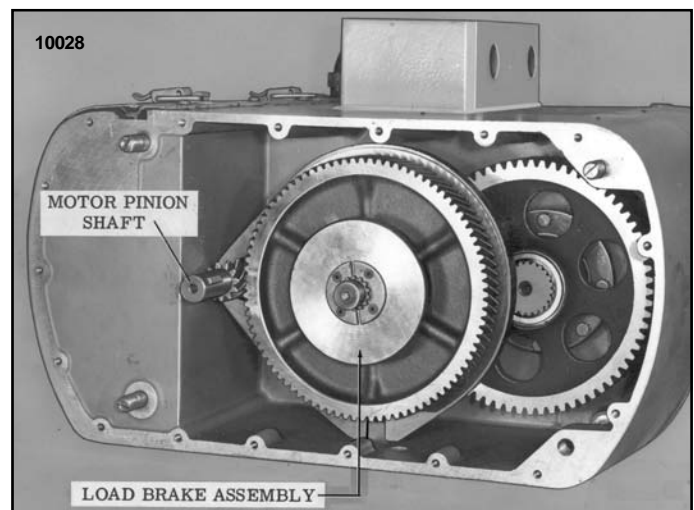

Figure 8-7. View of Gearing with Spider Removed
To inspect the roller-ratchet brake and gearing, drain oil from the gear case and remove motor brake actuating mechanism per Paragraphs 8-5.d.(1) and 8-5.d.(2). Remove gear case cover by removing the hex head cap screws holding cover to the case. Remove the assembled spider and motor brake from the gear case by removing hex nuts and hex head bolts and lockwashers holding spider to the gear case. In addition, the load brake shaft is held to the spider by a bearing cage and six cap screws which holds the load brake shaft bearing to the spider. This bearing is held to the shaft by a retaining ring which must be removed in order to remove the spider. At this point the interior of the gear case can be inspected along with the gears and shafts. (See Figure 8-7)